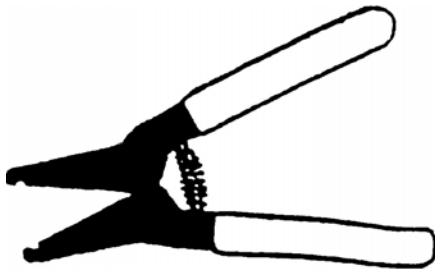

Figure 21. Bypass Shears
e. Using a full bypass shears (part number MFE-100) shown in Figure 21, hold the grommet as shown in Figure 22.